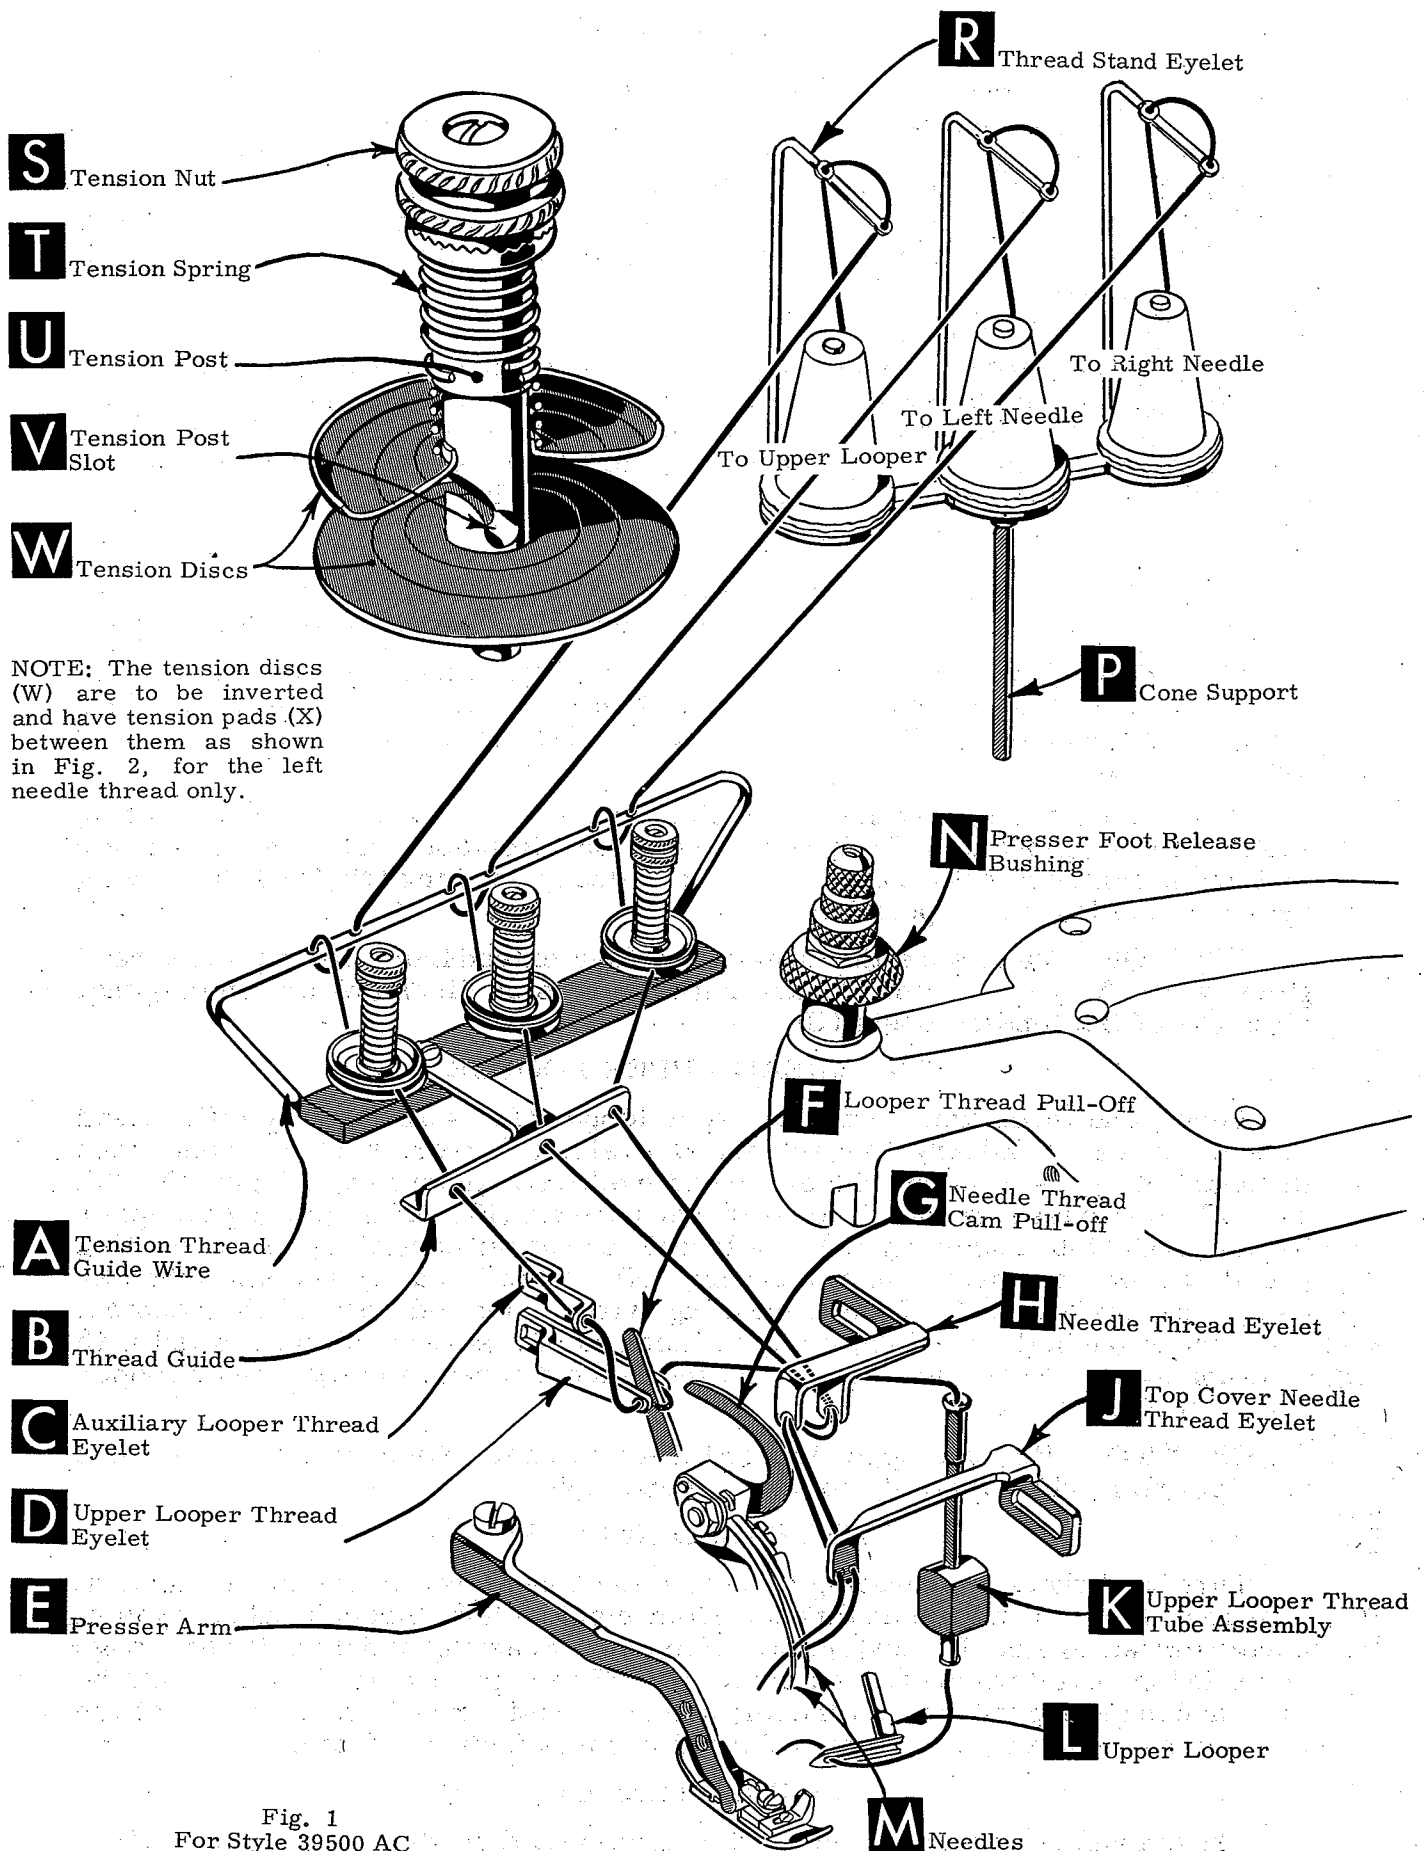
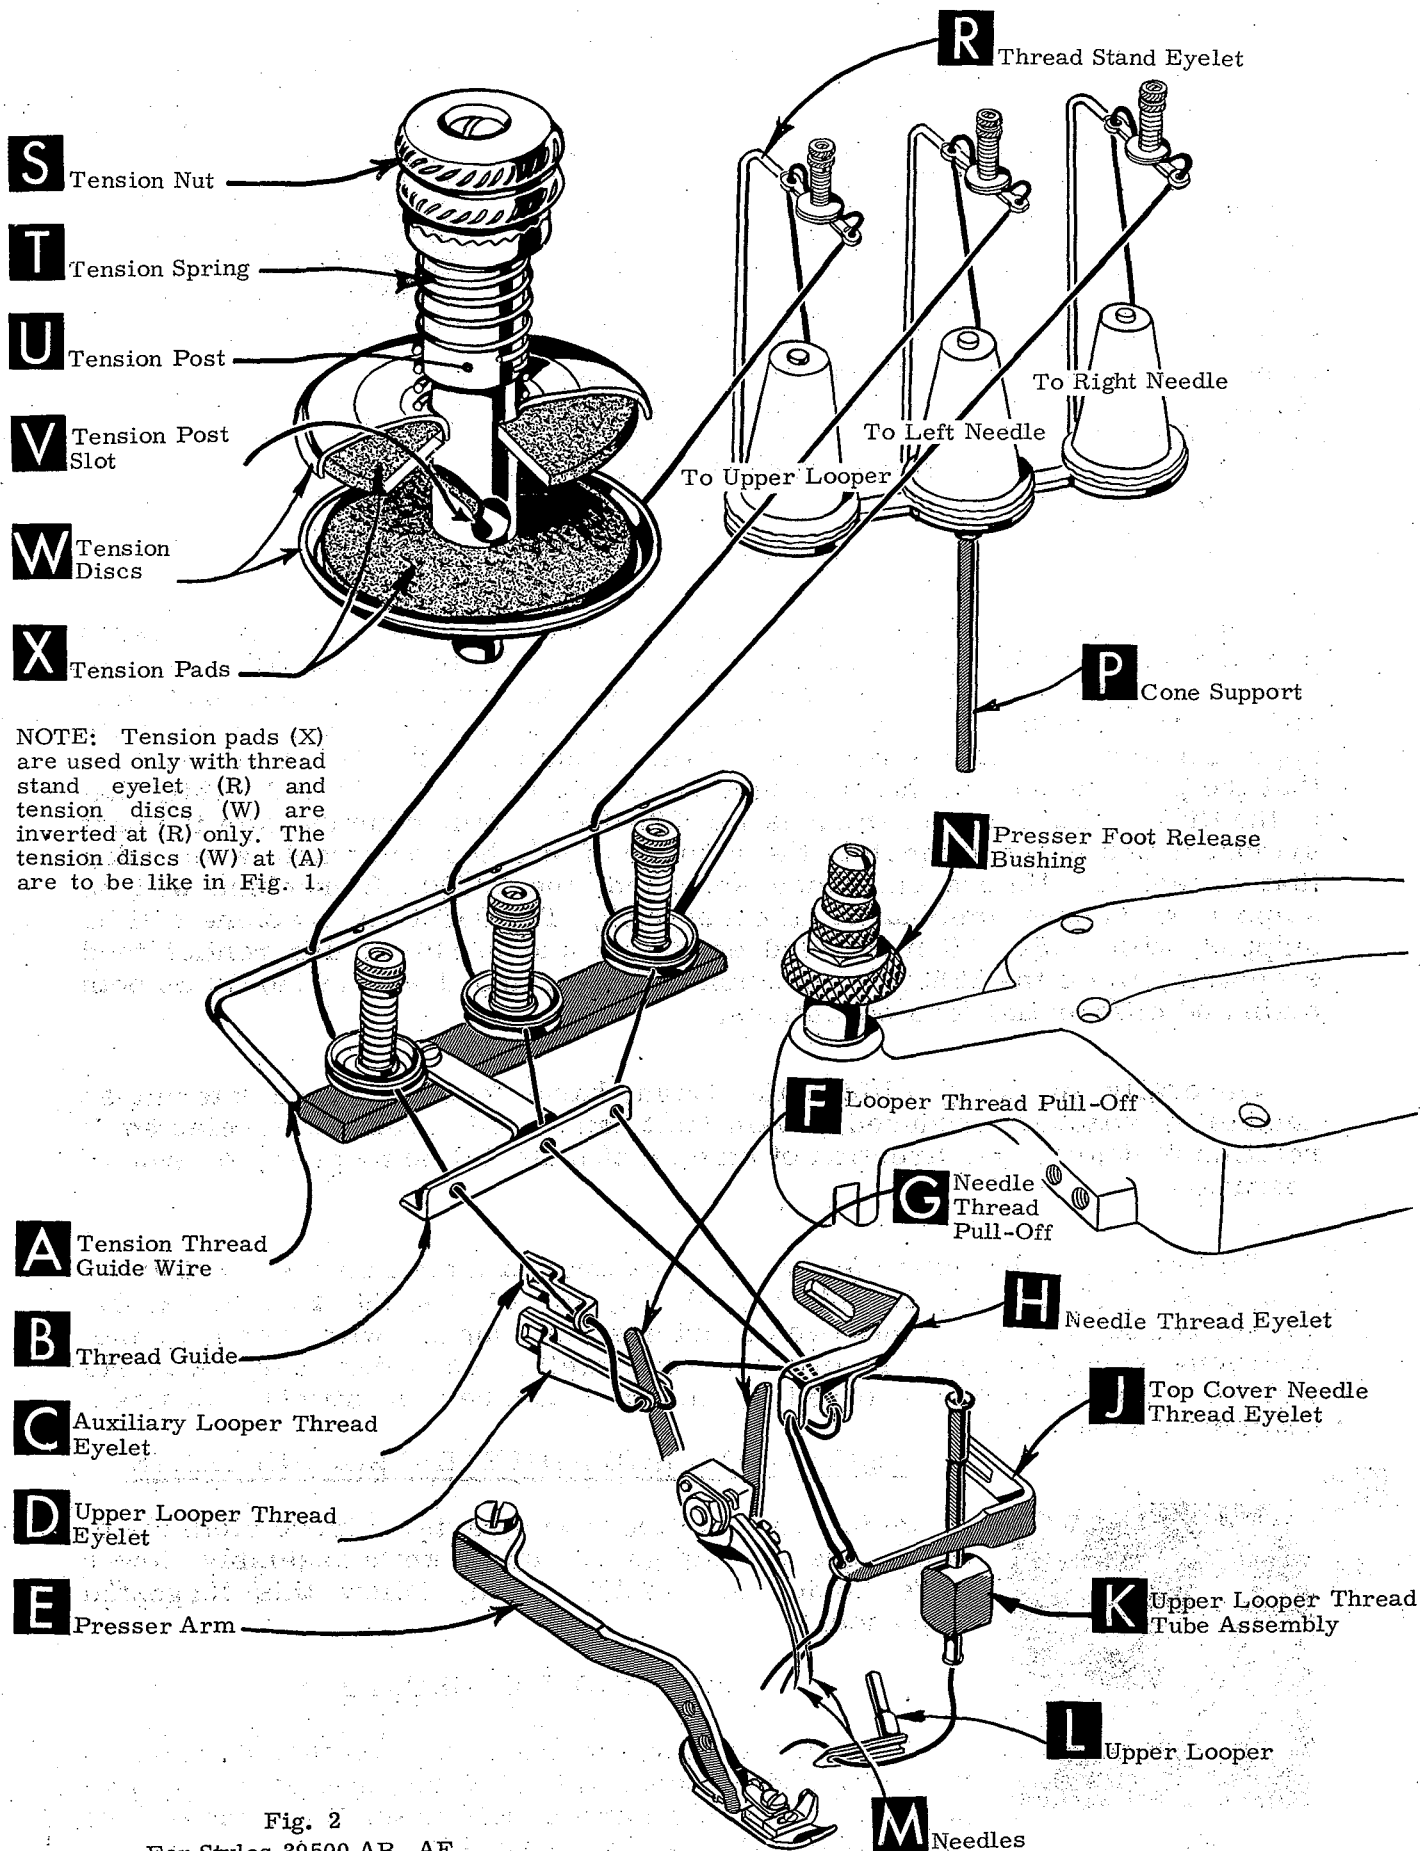

Fig. 1
Fig. 2
Release pressure on presser foot by turning presser foot release bushing (N, Figs. 1 and 2) and swing presser arm (E) out of position. Turn handwheel in the operating direction until needles are at their lowest point of travel. Using hexagonal socket wrench No. 21388 AU, furnished with machine, loosen needle clamp nut about 1/4 turn. Again turn handwheel until needles are at high position. Withdraw needles.
After thread comes from thread cones (positioned on cone support (P)), it is brought up through BACK thread eyelet, then down through FRONT thread eyelet (R, Fig. 1). Next, thread is extended down through the right hand hole and up through left hand hole of the tension thread guide wire (A). Thread is then continued between tension discs (W), through slot (V), and on through thread guide (B).
After thread comes from cones (positioned on cone support (P)), it is brought up through the BACK thread eyelet, then continues between felt pads (X) through slot (V), and down through FRONT thread eyelet (R, Fig. 2). Next, thread is extended down through the left hand hole in the tension thread guide wire (A), through holes in the thread guide (B).
Only parts involved in threading are shown in threading diagrams (Figs. 1 and 2). Parts are presented in their relative positions for clarity.
CAUTION! Make sure the threads, as they extend from the tension thread guide wire (A, Figs. 1 and 2), are between tension discs (W) and in diagonal slots (V) of the tension posts (U).
The amount of tension on the needle and looper threads is regulated by three knurled tension nuts (S, Figs. 1 and 2). Tension on threads should be only sufficient to secure proper stitch formation.
Be sure machine is threaded according to diagram for your style of machine (either Fig. 1 or Fig. 2). With thread tensions light, set looper thread eyelet (D, Figs. 1 and 2) about horizontal and back in its front to back location. Operate machine slowly, without presser foot in place, to make sure that chain forms and moves off the tongue freely. Swing presser foot into position, insert material, and sew slowly.
About 60% of needle thread is drawn from cones on needle down stroke. The remaining 40% is drawn on the upstroke. With needle at bottom of stroke, position needle thread eyelet (H, Fig. 1) so that needle thread cam pull-off (G) just contacts needle thread.
Usually, all needle thread is drawn on needle down stroke. At top of needle stroke, thread should be just tight enough to feed chain off stitch tongue. Needle threads tend to pull down slightly if excessive thread is pulled on the up stroke. With needles at bottom of stroke, position needle thread pull-off eyelet (H, Fig. 2) so that the needle thread pull-off (G) draws the proper amount of needle thread to satisfy the above conditions.
During needle down stroke, forward stroke of looper thread pull-off (F, Fig. 1 or Fig. 2) will draw upper looper thread through the tension. When normal amount of looper thread is drawn, upper looper thread will have almost all slack taken up as looper thread pull-off reaches its most rearward position.
If upper looper thread has a loose appearance in the seam, move looper thread pull-off eyelet (D, Fig. 1) forward and raise slightly. If, however, the eyelet is raised too high and moved too far forward, the looper thread will tend to break excessively--even with a minimum amount of looper thread tension applied.
If upper looper thread has loose appearance in the seam, move looper thread pull-off eyelet (D, Fig. 2) forward slightly. If, however, the eyelet is too far forward, the looper thread will tend to break excessively--even with a minimum amount of looper thread tension applied.